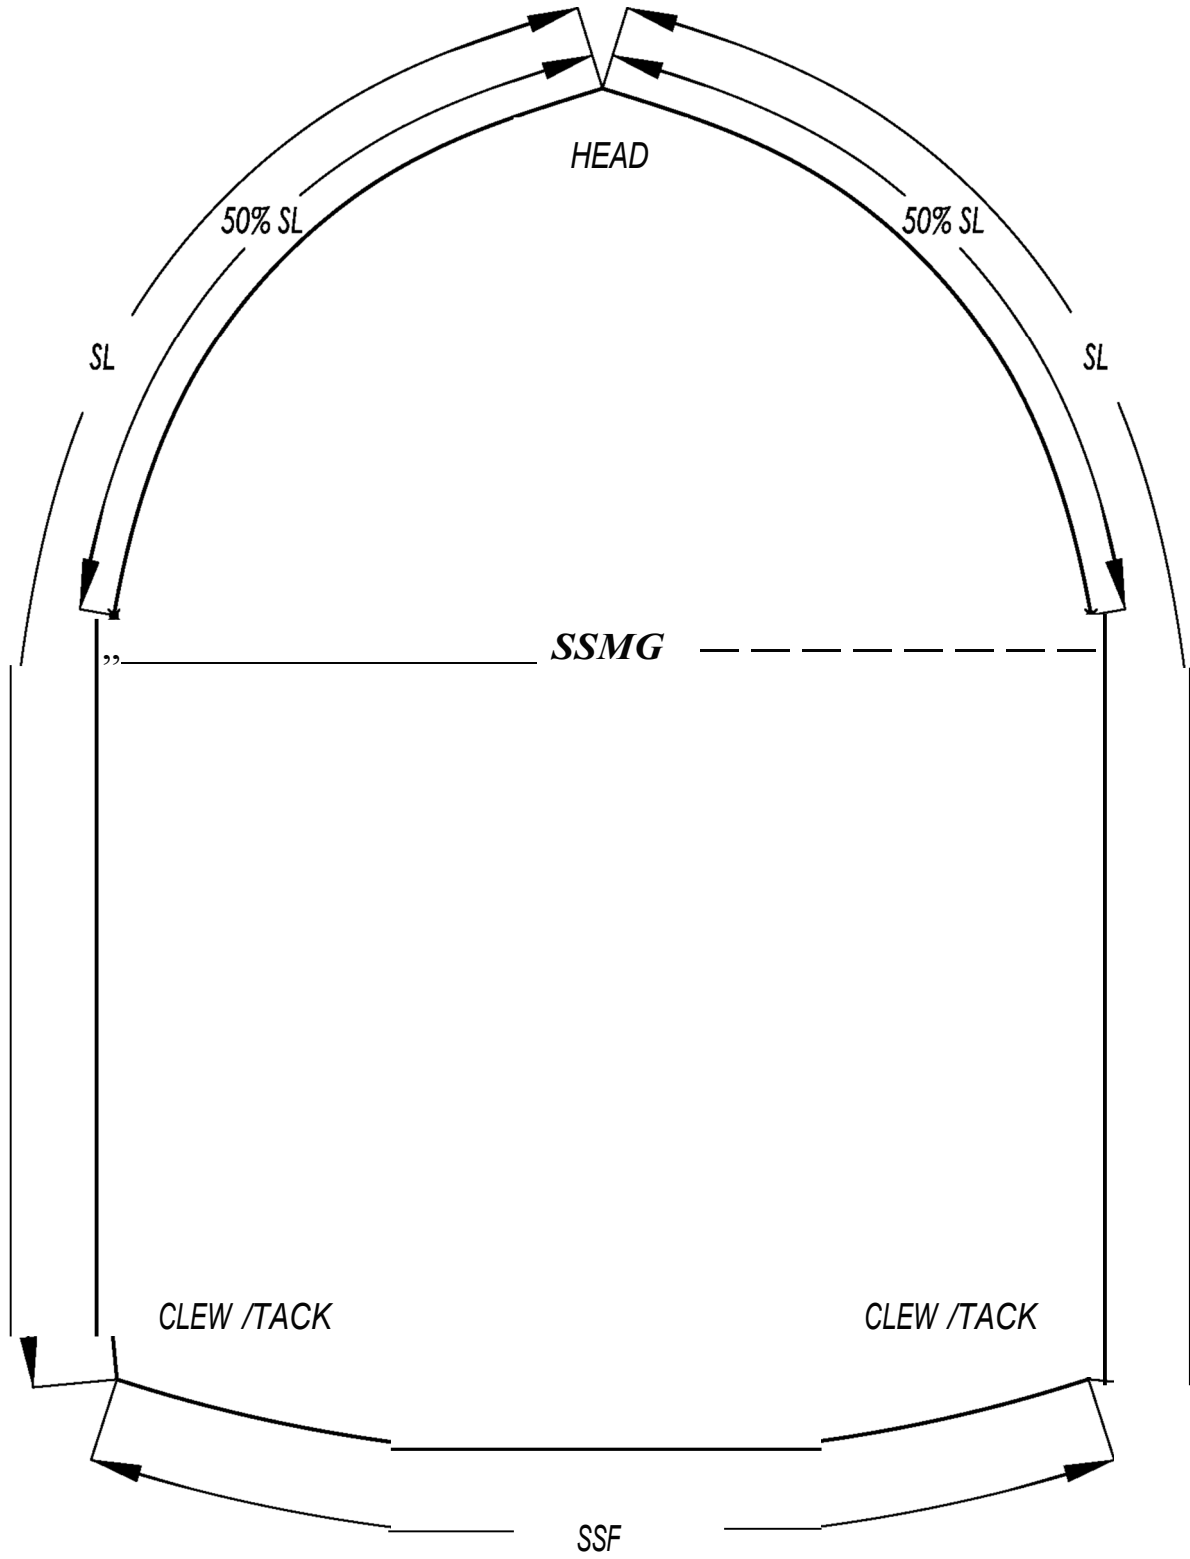

FIGURE 2 - SYMMETRIC SPINNAKER DIMENSIONS
- i. Relevant dimensions can be found in Figure 2